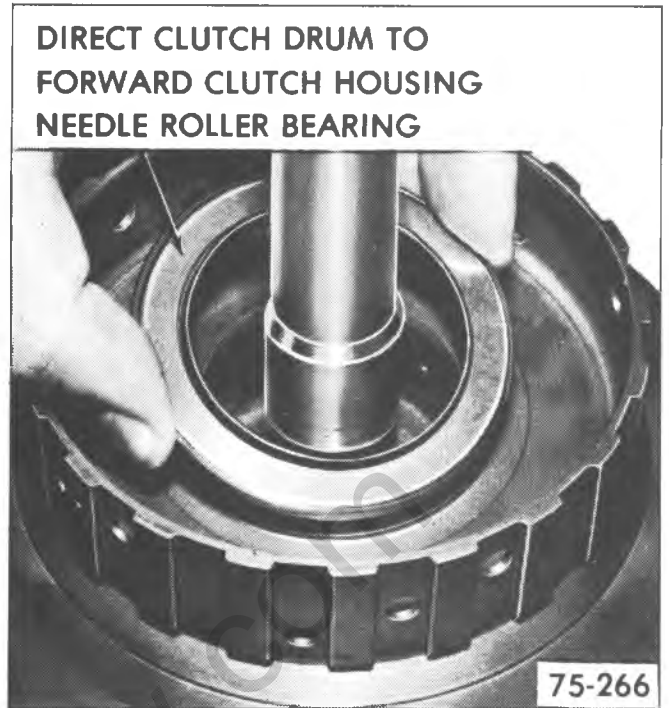

Fig. 69M--Direct Clutch Drum to Forward Clutch Housing Needle Roller Bearing
4. Remove direct clutch drum to forward clutch housing needle roller bearing (fig. 69M).